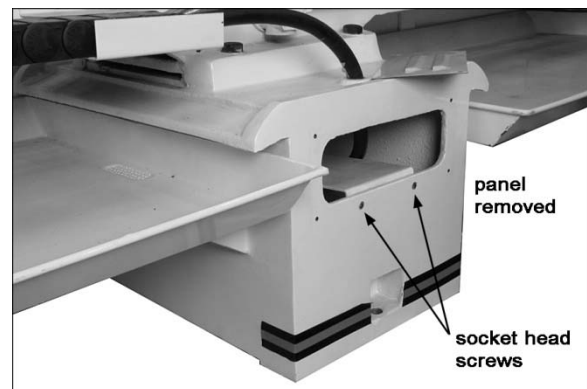

Figure 21 – Coolant pump access (GH-26120ZH)
- 2) Remove rear panel on center stand then remove the two socket head screws (Figure 21) that secure the plate on which the coolant pump is mounted.